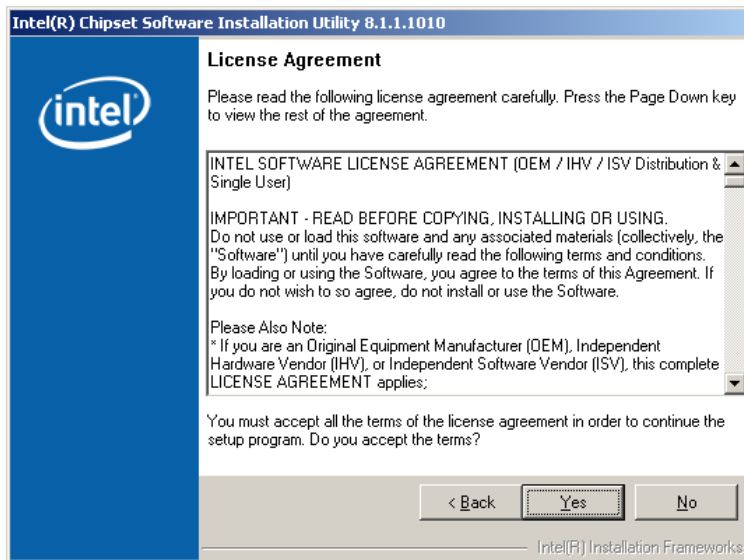

Figure 7-4: Chipset Driver Installation License Agreement
Step 8: The license agreement in **Figure 7-4** appears.